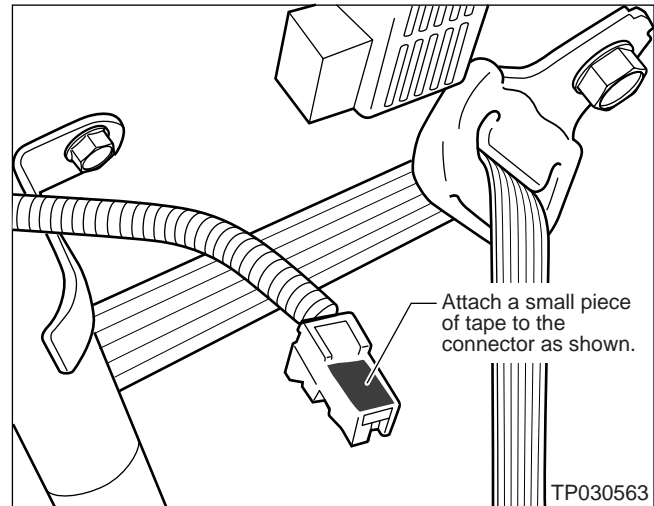

Figure 8
5. Apply a small piece of electrical tape to the connector as show in Figure 8.